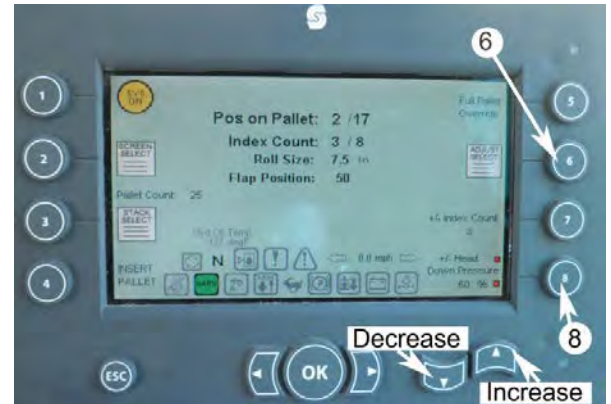

Fig.1
- Cut Length, ** Index Conveyor Advance Count, **Bad Roll Flap Correction, and ** Bad Roll Open Time ; are in the 'Adjustments' Pop-Up Menu, by pressing Display Button'**6**'. Fig.1. (see page 3-13), Scroll by using the display 'UP/DOWN' arrow Buttons, Right to **Increase**, Left to **Decrease**.